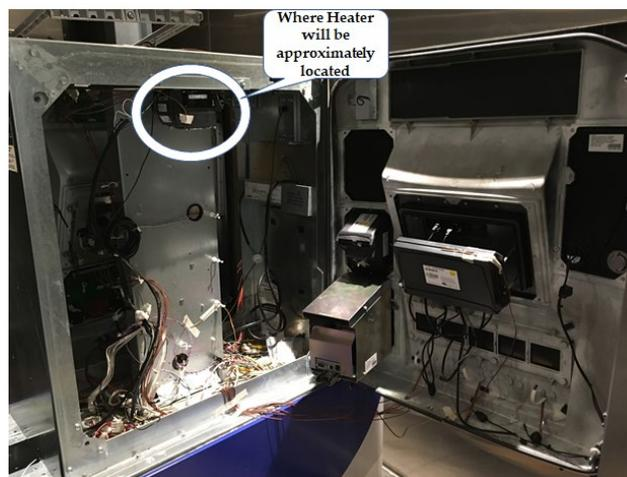

Figure 164
**Note:** The OPTIC heater will be installed approximately as shown in Figure 164.